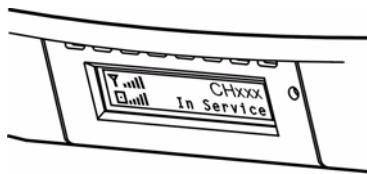

Figure 3.5: Displayed Signal Strength and Coverage Area
3. Hold the CU in the position it is to be mounted. In an ideal application, the display on the CU will show 5 bars of signal strength and coverage area. If the display is not showing 5 bars for coverage area and there are alternate possible mounting locations, move the CU to the alternate locations and check the display. Place the CU in the location showing maximum number of bars (see Figure 3.5:“Displayed Signal Strength and Coverage Area”). In the event the number of bars is not changing, which is very possible, choose a location that is most convenient.